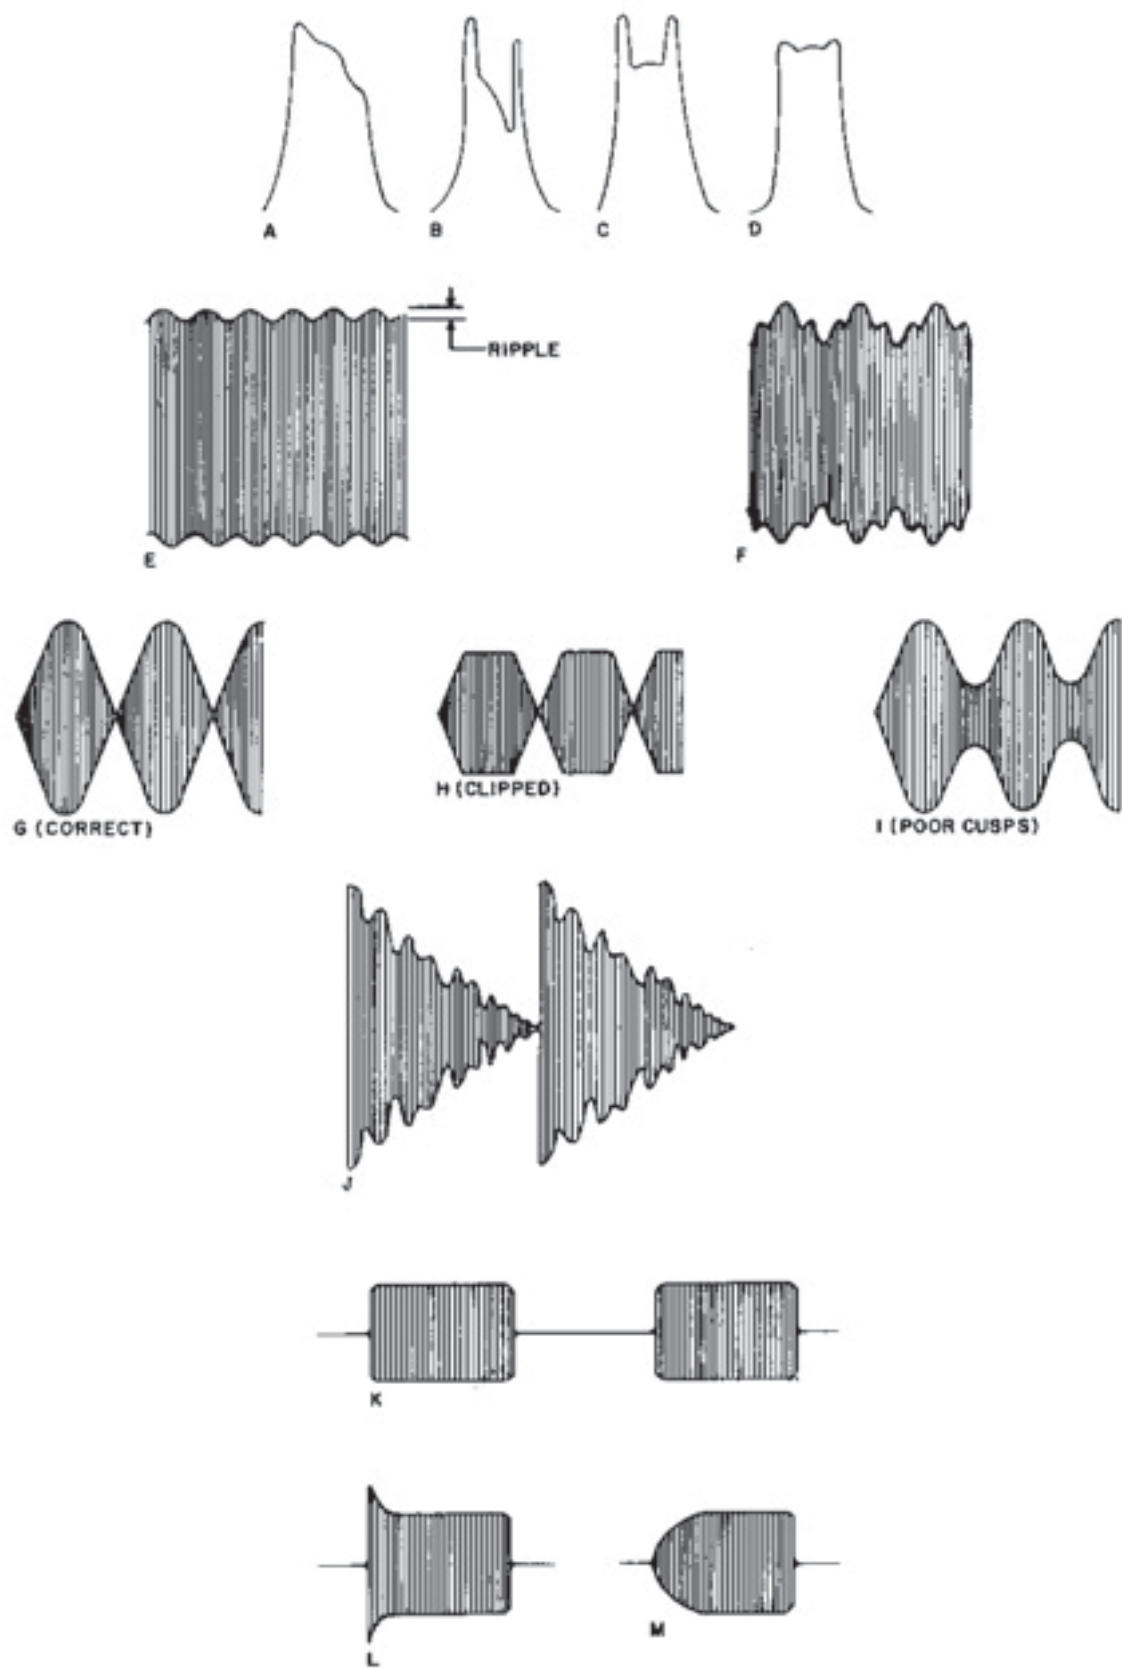

Figure 5. NCX-3 Wave Forms
Release the push-to-talk button; the relay of the NCX-3 should close indicating a return to receiving condition. The display on the oscilloscope should disappear as the relay clicks. Remove the high-frequency oscilloscope connection and the signal generator connection. Set the function switch to AM. Attach the output of the 5 mc. sweep generator to the grid (Pin 7) of the 6BE6 receive mixer. Connect the low frequency oscilloscope probe to the junction of C78, C87, D1, and D2. With the sweep generator output set for approximately 500  $\mu$ v., the oscilloscope display should indicate a filter curve with a shape similar to that indicated in figure 5-A. The slug of the filter output coil (T2) should be slowly withdrawn from the coil to elevate the right-hand side of the display. If the display indicates excessive peak-to-valley excursions, or "ripple", the top slug of the balanced modulator transformer (T1) should be carefully adjusted to minimize this ripple as indicated in figures 5-B and 5-C. The bottom slug of the balanced modulator transformer (T1) may be slightly adjusted to correct tilt in the filter curve. With proper alignment, the resulting curve should look like figure 5-D.
reaches 150 volts peak-to-peak. The cathode current meter should, at this point, indicate a current in the region of 250 ma. The wave form at this point should appear as indicated in figure 5-E. It is necessary to note the level of ripple on the wave form relative to the total wave form level. The ripple should not exceed 1/50 of the total wave form.
It is important to note the difference between carrier balance and unwanted sideband suppression in the previous measurement. If the CARRIER BALANCE control is rotated ever so slightly, the wave form of figure 5-E will be altered to the wave form of figure 5-F. If this wave form is present while attempting to make the sideband suppression measurement, the CARRIER BALANCE control should be slightly adjusted in order to compensate and return the wave form to that of figure 5-E.
Now, further advance the MIC GAIN until the cathode current meter just reaches 300 ma. as set by our previous tune-up procedure. Note the oscilloscope level. Slowly advance the CARRIER BALANCE control either cw or ccw from the balance setting. As this occurs, the wave form will begin to develop large cusps and peaks which will tend to exceed the noted oscilloscope level. Slowly reduce the MIC GAIN. By carefully adjusting between the MIC GAIN and the CARRIER BALANCE control keep the peaks at the pre-determined level. It should be possible to obtain a picture as illustrated in figure 5-G. It is important that the peaks of this figure be exactly at the level determined with the balanced carrier at 300 ma. of the cathode current. This is equivalent to a two-tone test and is useful in indicating distortion in the transmitter channel and performance of the modulating circuits. The wave form which is observed should have a clean sharp cusp and should have a sine wave envelope. There should be no flattening of the peaks and no broadening of the cusps. Typical *incorrect* wave forms are indicated in figure 5-I.
If all tests are completed satisfactorily, we can assume that the transmitter is working properly, although it is of value to check the dynamic operation of the transmitter with speech information. To do this, return the MIC GAIN to zero and balance the carrier with the CARRIER BALANCE control. Now, remove the audio generator from the microphone jack and replace it with the test microphone. Press the push-to-talk button and speak normally into the microphone. Slowly advance the MIC GAIN control until the peaks of the resulting signal reach the amplitude used for the previous two-tone type of test. At this point, the cathode current meter will be fluctuating rapidly with the speech content. The current meter should generally average around 100 ma. of current and the output wave form should appear as illustrated in figure 5-J.
11. Set the transmitting key for a long series of dots. Adjust the CARRIER BALANCE control for transmitter output just below full power. Observe the series of keying pulses on the high-frequency oscilloscope. A proper keying pulse should appear as in figure 5-K. Figure 5-L and 5-M indicate improper keying sequences.